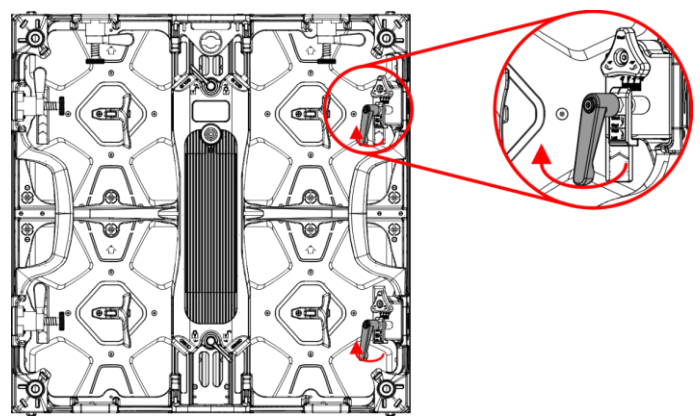

Fig. 54
- 03) Turn the top vertical **locking handle (09)**  $360^\circ$  clockwise to lock the **inclination mechanism (08)**, as shown in Fig. 54.
- 04) Repeat steps 1–4 for the bottom **locking handle (09)** of the LED screen.